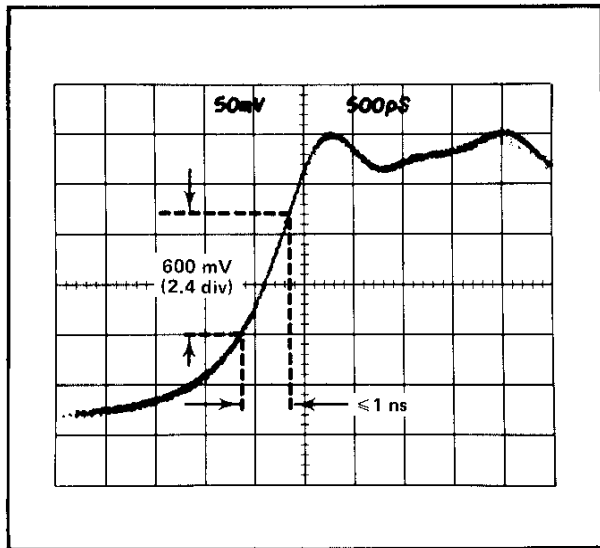

Fig. 5-2. Waveform of Pretrigger Out leading edge showing Rise Rate. (5X attenuator used in signal path.)
b. Check that a portion of the rise is greater than 600 mV (2.4 divisions) in 1 ns. See Fig. 5-2.
- b. Check any portion of the rise to be greater than 600 mV (2.4 divisions) in 1 ns. See Fig. 5-2.